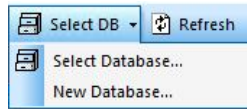

Figure 27. Select an existing or create a new database.
- Select New Database from the drop-down menu (as shown in Figure 27).